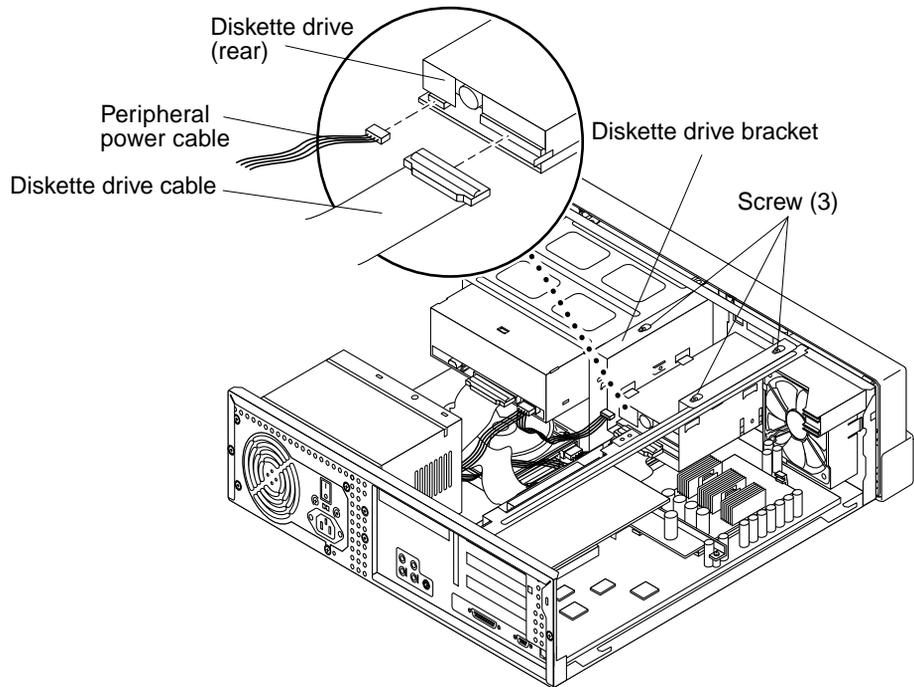
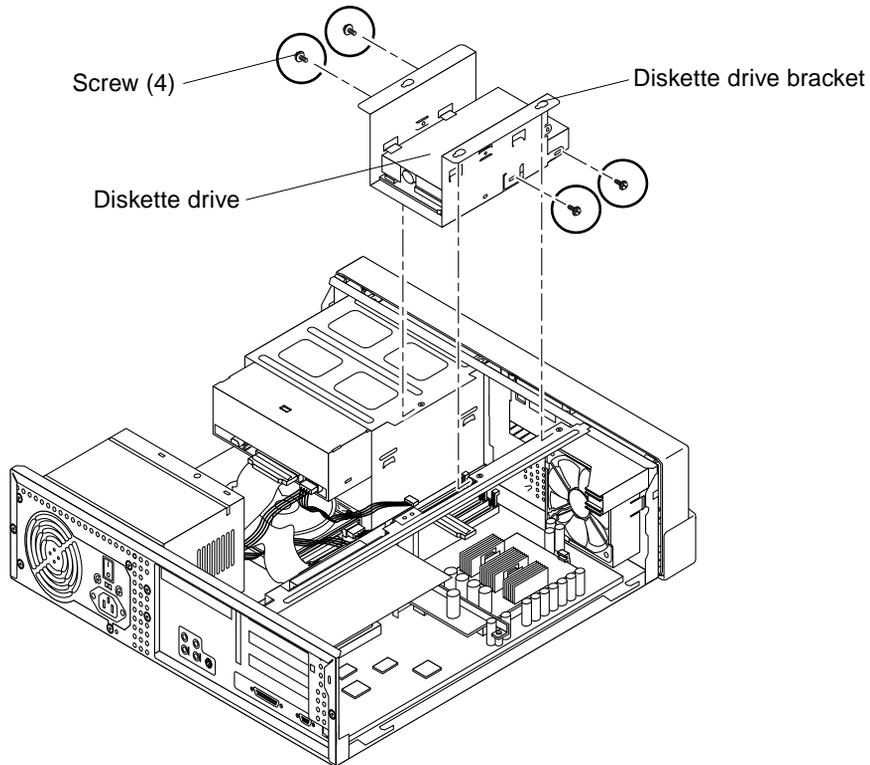

FIGURE 9-1 Removing and Replacing the Diskette Drive Part 1 (Ultra 5)
FIGURE 9-2 Removing and Replacing the Diskette Drive Part 2 (Ultra 5)
5. Remove the diskette drive from the Ultra 5 as follows (FIGURE 9-1 and FIGURE 9-2):
2. **Replace the diskette drive into the Ultra 5 as follows (FIGURE 9-1 and FIGURE 9-2):**